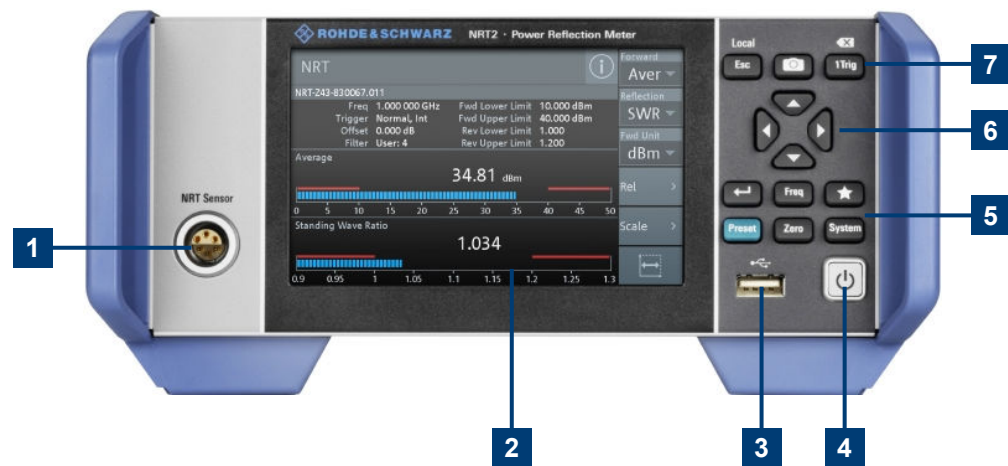

Figure 3-2: Front panel of the R&S NRT2
See Figure 3-2.
See Figure 3-2 and Chapter 3.2.2.4, "USB Host Interface", on page 26.
See (1) in Figure 3-2.
See (2) in Figure 3-2.
See (3) in Figure 3-2.
See (4) in Figure 3-2.
See (5) in Figure 3-2.
See (6) in Figure 3-2.